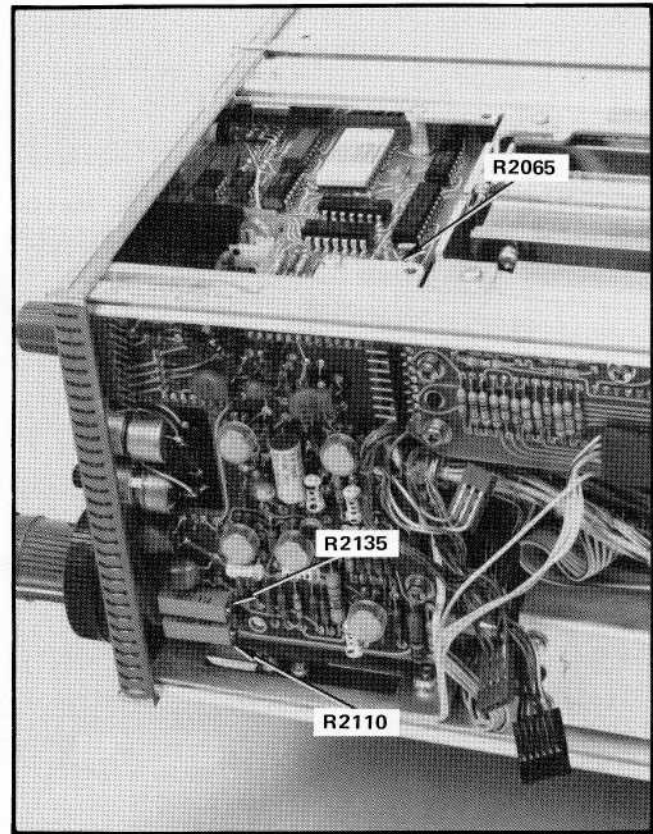

Fig. 4-10. Frequency Readout circuit adjustments.
b. Adjust the DVM reference current with R2065 (Fig. 4-10) so the mainframe readout matches the 7L13 readout. (This adjustment is not necessary if the 7L13 is operated in a non-readout mainframe.)
d. Adjust the DVM offset with R2135 (Fig. 4-10) so the LED readout is 900 MHz.
f. Adjust the DVM gain with R2110, (Fig. 4-10) so the LED readout is 0100.